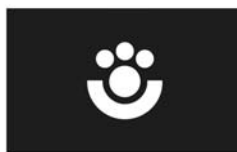

Figure 39: Status icon of the scene extension
A symbol (C) can optionally be displayed in the lower display area. A parameter in the ETS defines whether the status icon in the display element is used. The scene function icon is static and preset (figure 39). Consequently, the icon does not change the display status for a scene recall or scene storage function.